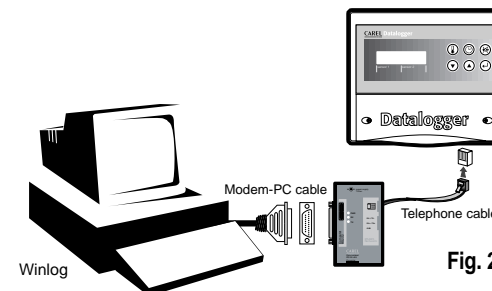
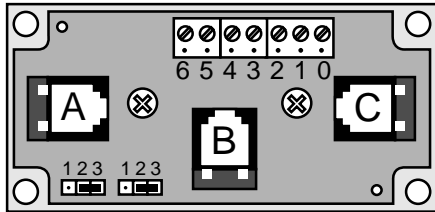
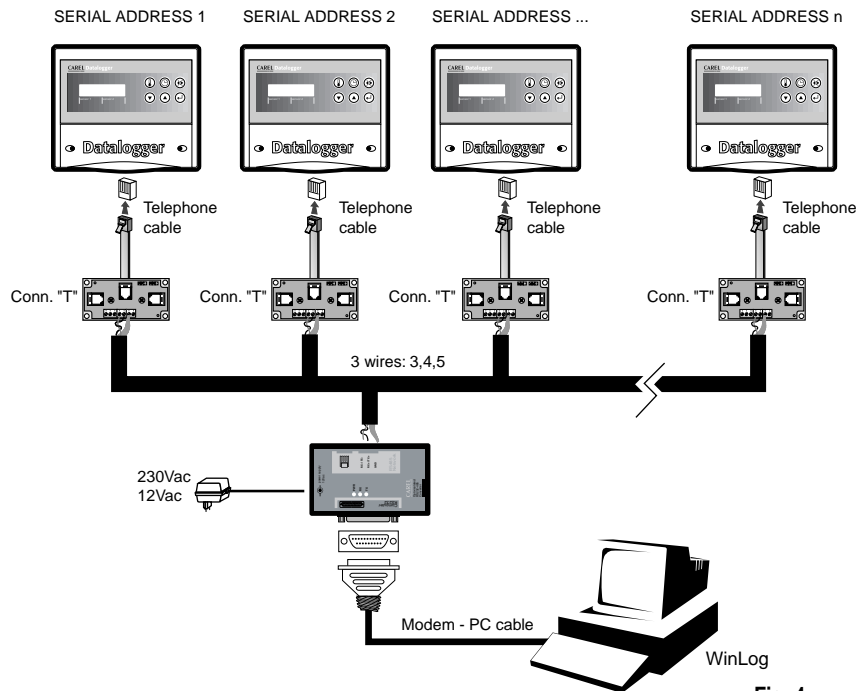

Fig. 2
Fig. 3
Fig. 4
The RS232 serial port (female) is on one side, while the other houses the telephone connector (RS485 serial port) and the terminal block. The power supply may be provided by a connected Datalogger (in the same configuration as that of Fig. 2) or else from the outside using the transformer (in connections such as that of Fig. 4, in which three-wire cables are used). The status of transmission (TX), reception (RX) and power supply (PWR) lines is indicated by the three LEDs.
Fig. 2 shows the connection of a single Datalogger to the PC by means of the RS485-RS232 converter. In this connection the transformer is not required, as the converter is directly powered by the Datalogger itself. The data transfer operates in half-duplex mode. The transmission rate is 38.4 Kbaud and, taking into consideration the breaks introduced by the communication protocol of the Datalogger, corresponds to less than 4 minutes for 1 year's data.
“T” connector: (code TCONN6J000) enables a Datalogger to be interfaced to a network of several Dataloggers, thanks to its three RS485 telephone connectors (Fig. 3), two “input” and one “output”, and a terminal block in which the reception, transmission and ground wires of the RS485 serial connectors are accessible. Connection examples are described in the paragraph on networks (Figs. 4 and 5).